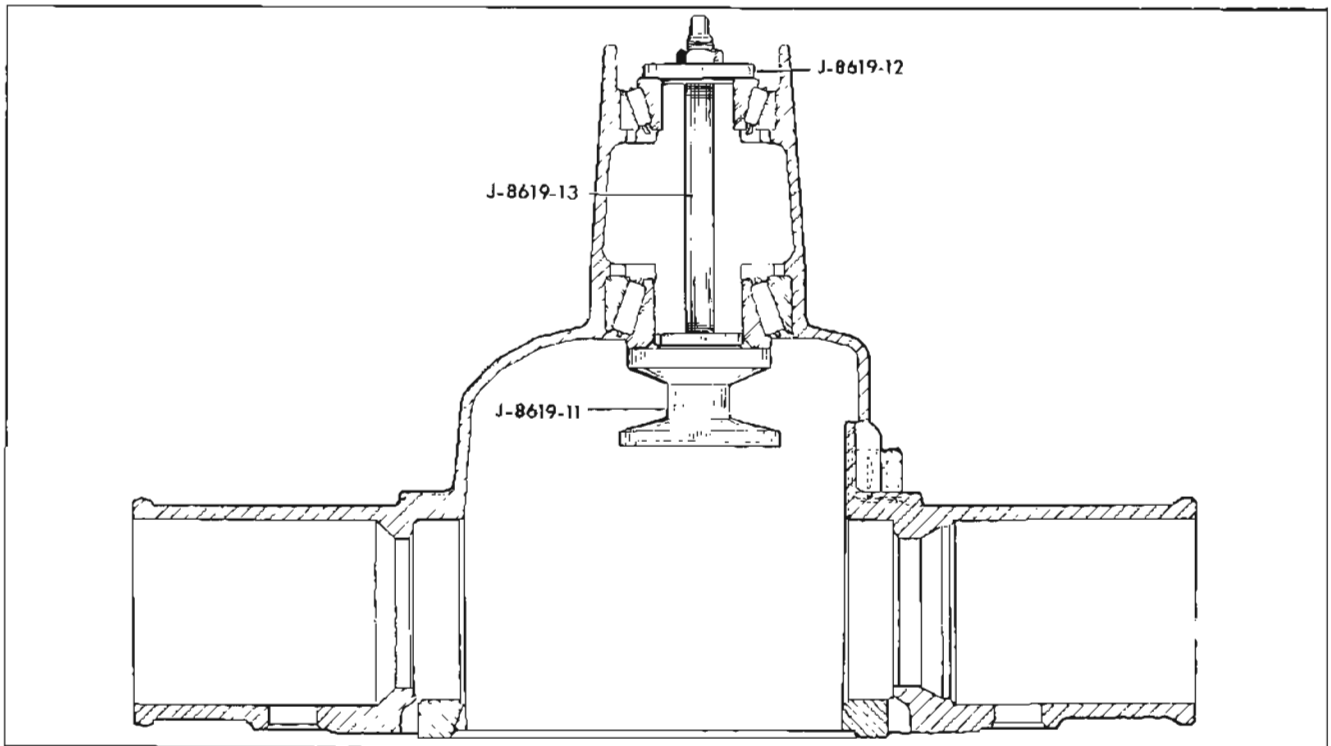

Figure 6-21—Securing Gauge Plate In Carrier
6. Lubricate front and rear pinion bearings; then position them in their respective races in the carrier. While holding bearings in place, install Gauge Plate J-8619-11 in carrier on rear pinion bearing inner race as shown in Figure 6-21 and place pilot on surface of front pinion bearing. Insert Stud J-8619-13 through pilot, front and rear bearings, and thread it into gauge plate. See Figure 6-21.